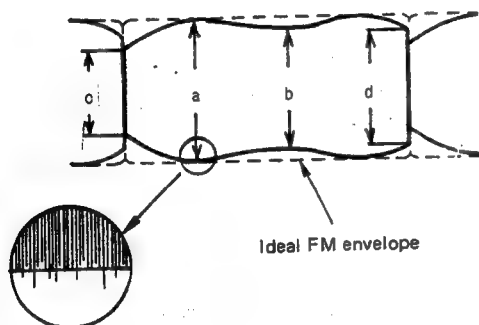

Fig. 2-44 FM waveform (max. output)
4. As shown in Fig. 2-44, read the maximum FM level (a) and minimum FM level (b), then confirm that: